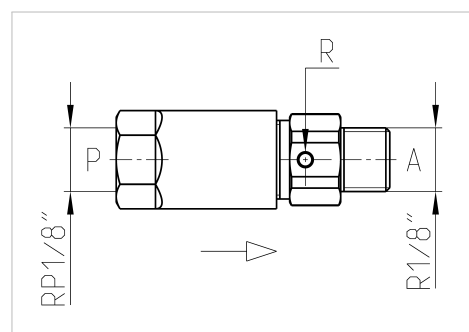

Figure 2: EVE-1/8"-1/8"
- EVE-1/8"-1/8" (Figure 2) for variable use with different pipe diameters using separately available 1/8" screw connections.